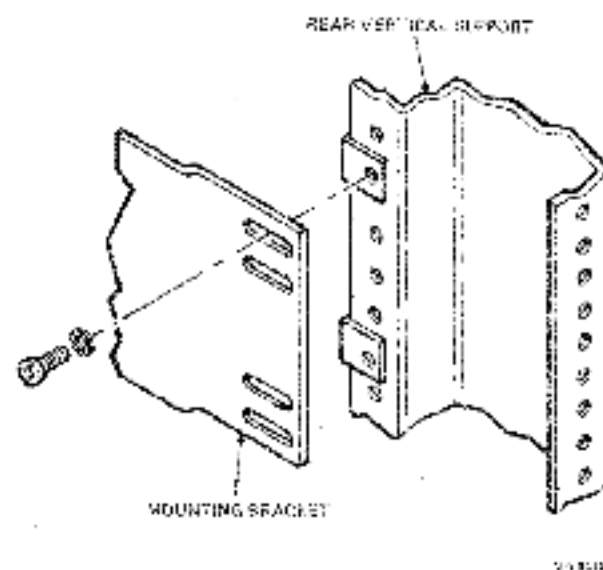
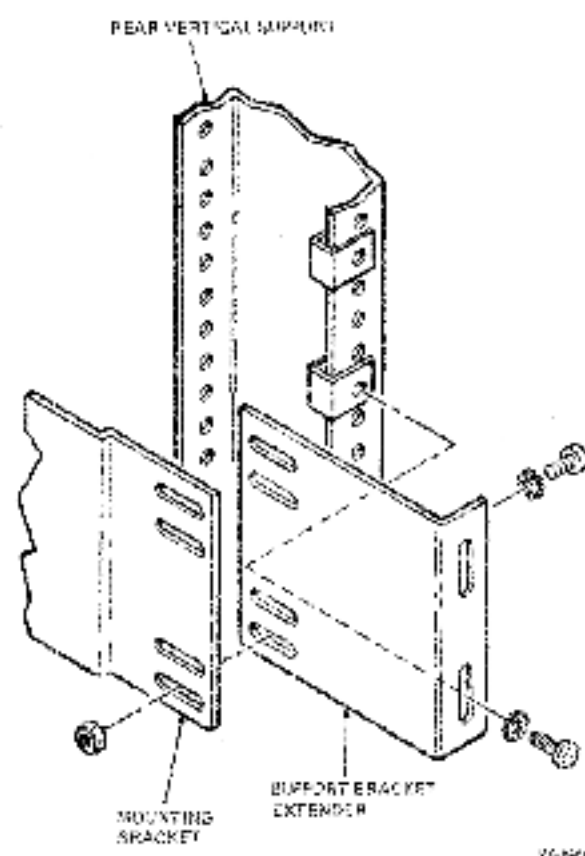

Figure 4-6 Rear Vertical Support U-Nut Retainers
Figure 4-7 Fastening Support Bracket Extenders
5. Open the back of the rack. Attach four U-Nut retainers to the rear vertical rails (Figure 4-6).
6. If a non-DIGITAL rack is used, fasten the support bracket extenders to the rear vertical rails with four screws, four lock washers, and four lock nuts. Use two per side in the top and bottom holes (Figure 4-7).
9. For DIGITAL racks, fasten the mounting brackets to the rear vertical rails (Figure 4-6). For non-DIGITAL racks, fasten the mounting brackets to the support bracket extenders (Figure 4-7).